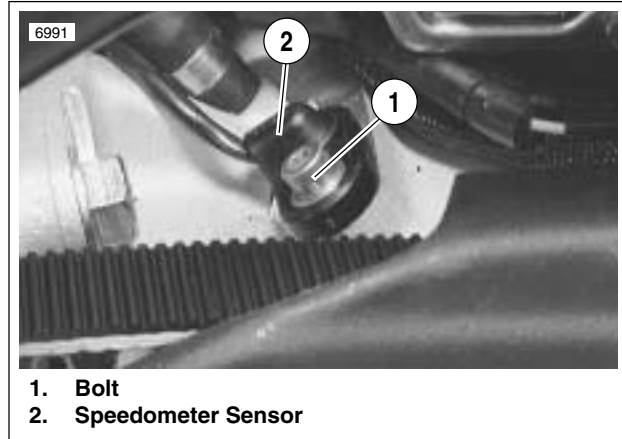

Figure 7-54. Speedometer Sensor
1. See Figure 7-54. Remove bolt (1) to detach speedometer sensor (2) from crankcase.
1. See Figure 7-54. Install bolt (1) to attach speedometer sensor (2) to crankcase.